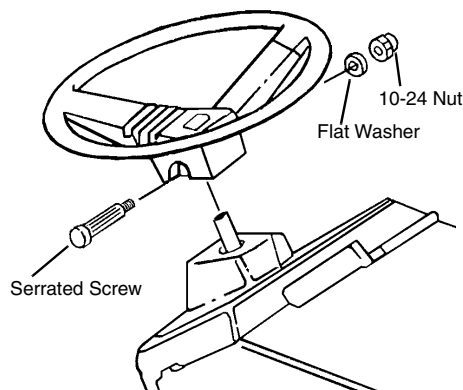

FIG. 1
- Remove the steering wheel from its packaging and place on the steering shaft with the center spoke pointing towards the rear of the tractor. (See FIG. 1)